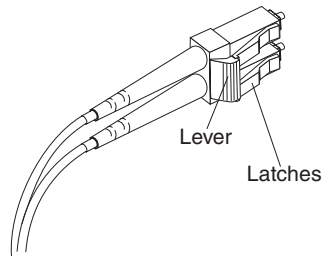

Figure 35. LC-LC Fibre Channel cable lever and latches
1. At the end of the cable that connects into the LC connector end of the LC-SC cable adapter, press down and hold the lever to release the latches. Figure 35 on page 45 shows the location of the lever and latches.